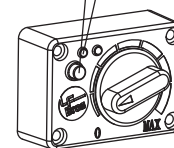

Fig. 30
7.1.1 - Heating (temperature) working mode: start button is in the press state, and start indicator is light green. Use the control knob to set the control temperature (continuously adjustable between 10 °C ~ 30 °C). See Fig. 30.